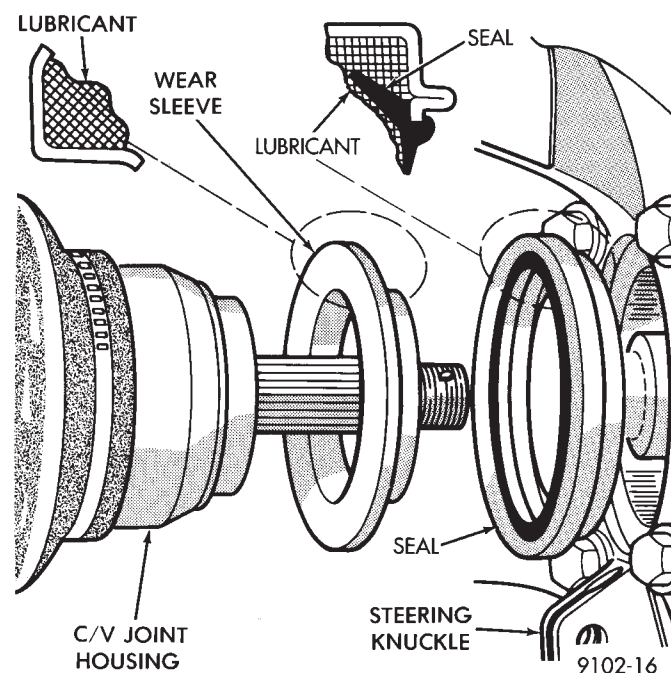

Fig. 12 Seal and Wear Sleeve Lubrication
(4) Lubricate the FULL circumference of the seal (and wear sleeve) with Mopar® Multi-Purpose Lubricant, or equivalent (Fig. 12).